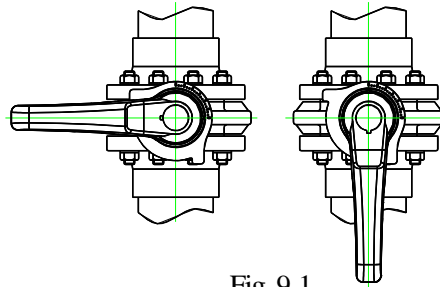

Fig. 9-1
- 2) In case of lever type (40-200 mm { 1 1/2"-8" }), the direction of handle is same as the disc as shown in Fig. 9-1.